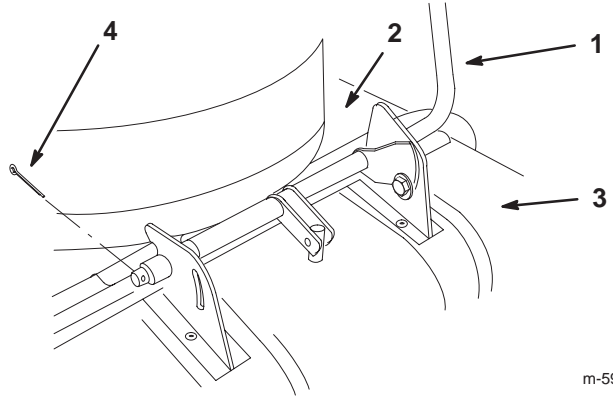

Figure 9
1. Align the hinges on both halves of the collector. The halves must be positioned in the closed position (Fig. 9).
2. Push the dumping arm through the hinges and secure with a cotter pin (3/16 x 1 in.) (Fig. 9).